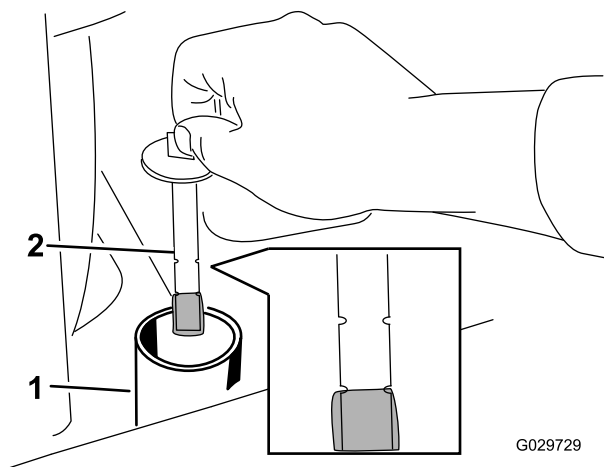

Figure 28
6. Remove the cap from the filler neck and check the fluid level on the dipstick (Figure 28).